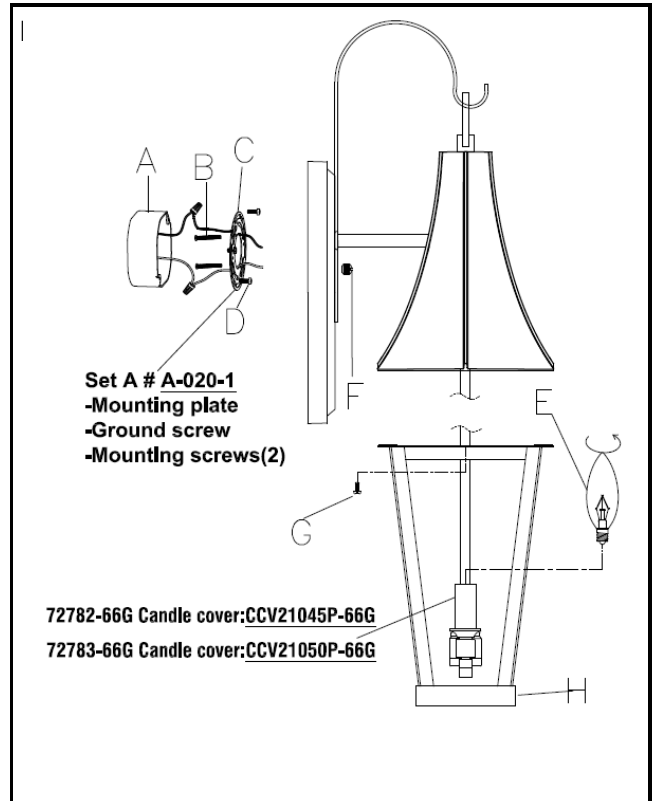

Fig. 2
CONNECTING THE WIRES (Fig. 2).
5. Connect the electrical wires as shown in Fig.2. Making sure that all wire connectors are secured. If your outlet box (A) has a ground wire (green or bare copper), connect the fixture's ground wire to it. Otherwise, connect the fixture's ground wire directly to the mounting plate (C) using the green screw provided.